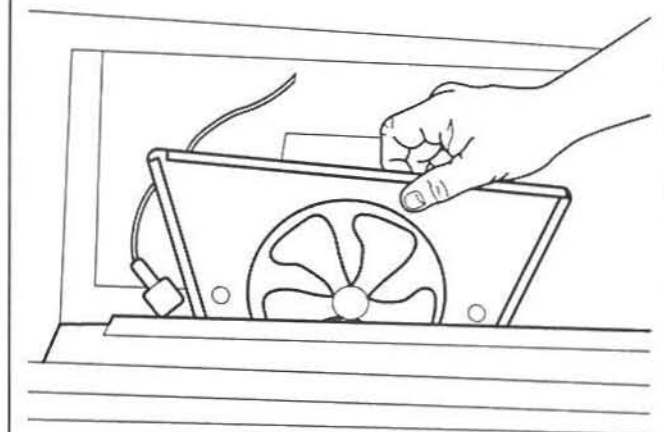

Figure 2-24. Evaporator Fan Motor Assembly
1. Disconnect electrical connector at top rear of fan motor assembly, then slide the evaporator fan motor up and out (Figure 2-24).